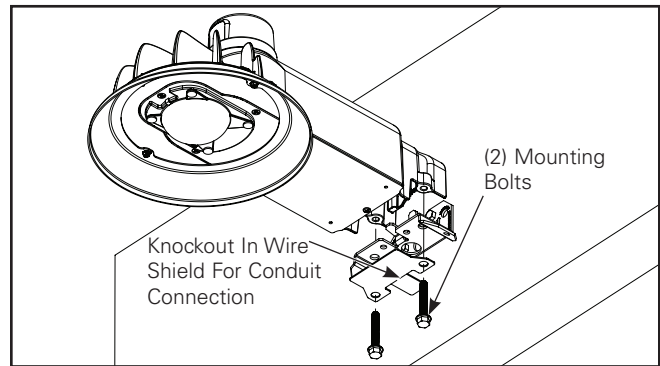

Figure 4.
5. Using 1/2" socket, install wire shield as shown with the two fixture mounting bolts up through the wall/pole bracket and into luminaire. If connection to conduit hole in the bottom of mounting bracket is preferred, remove the knockout tab on the wire shield. Tighten to 6-8 ft-lbs. (Figure 4 & Figure 5.)